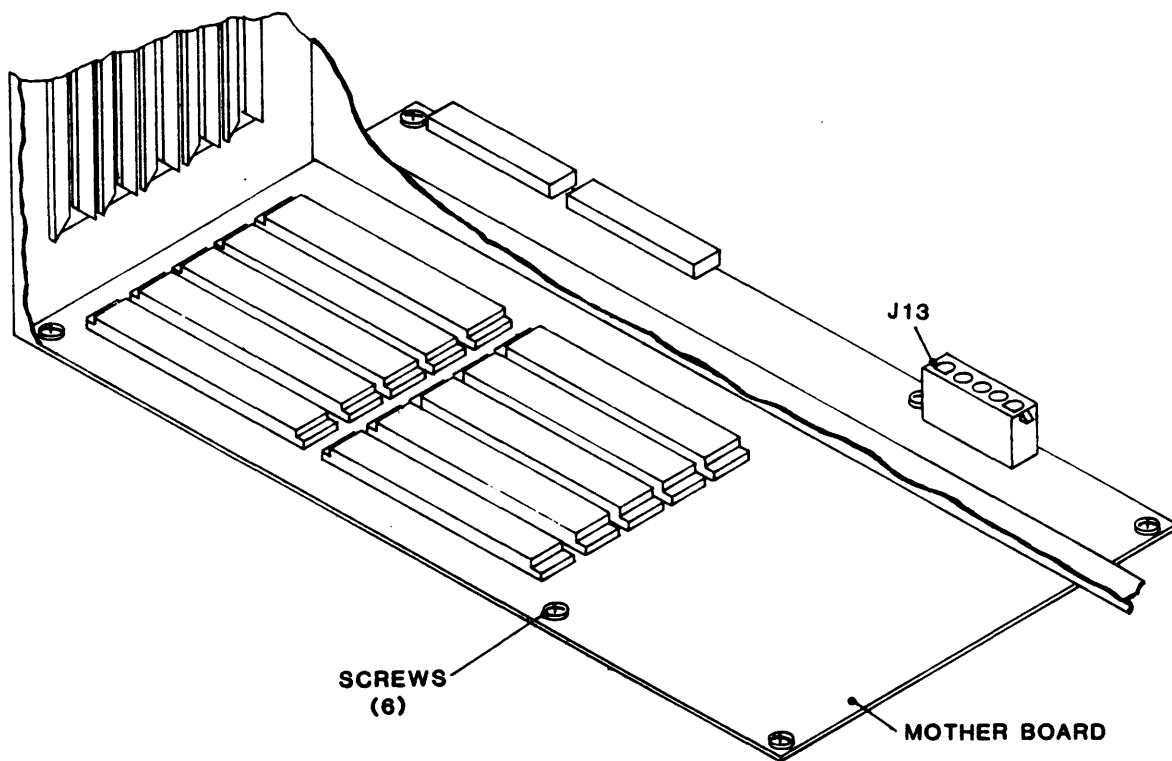

Figure 4-10 Mother Board
4.3.9 MOTHER BOARD PCBA (Fig. 4-10)